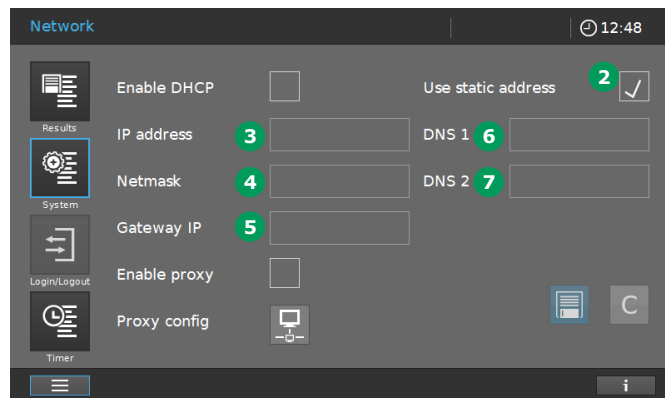

Figure 35 - After clicking on "Network" in the previous window (Figure 34), this window will appear
2. Enable "Use static address" **2** in the Network menu (Figure 35).